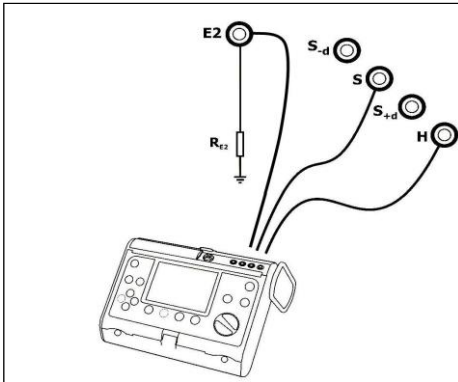

Fig. 9. Connection of the meter
- connect the earth resistance meter (MRU-XXX) to the sockets in accordance with Figure 9,